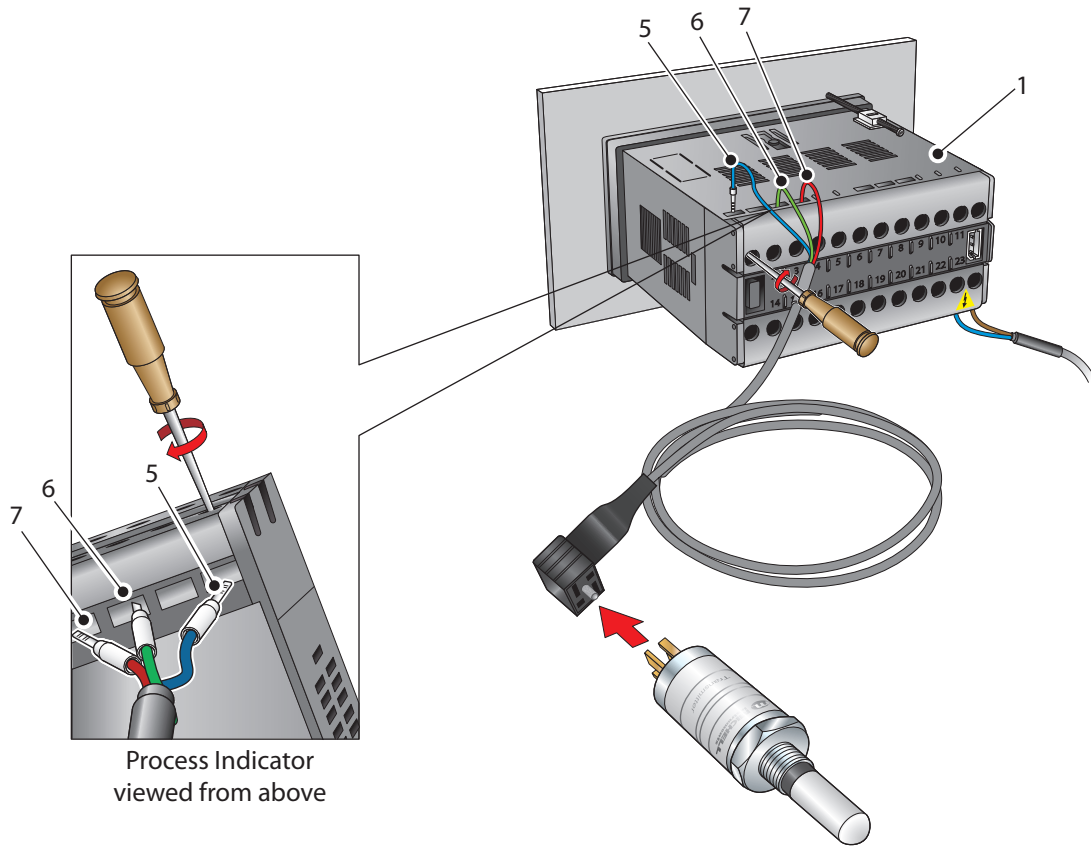

Figure 3.9 Transmitter connections
Connect the transmitter cable to the process indicator (1) as shown in *Figure 3.9*.
5. Fit the transmitter cable/connector assembly to the process indicator as detailed in Section 3.6.4 (see also *Figure 3.9*).